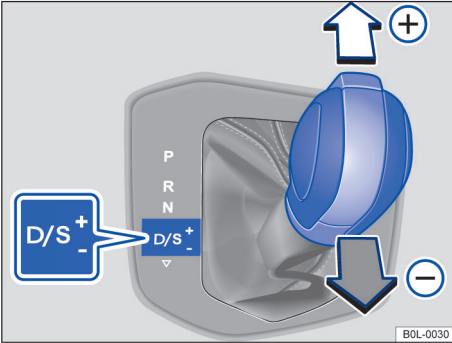

Fig. 89 Selector lever in Tiptronic position
- Tap the selector lever forwards **+** or back **-** to shift gear up or down → Fig. 89.